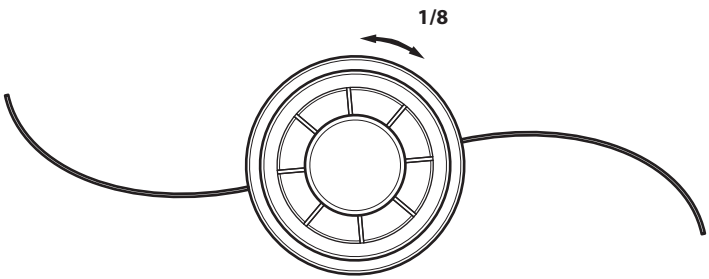

Fig. 7
- IF...** the lower shaft housing does not enter the coupler completely and the holes do not align, remove the lower shaft housing, rotate the cutting head slightly (1/8th turn) and repeat step 4 (Fig. 7).